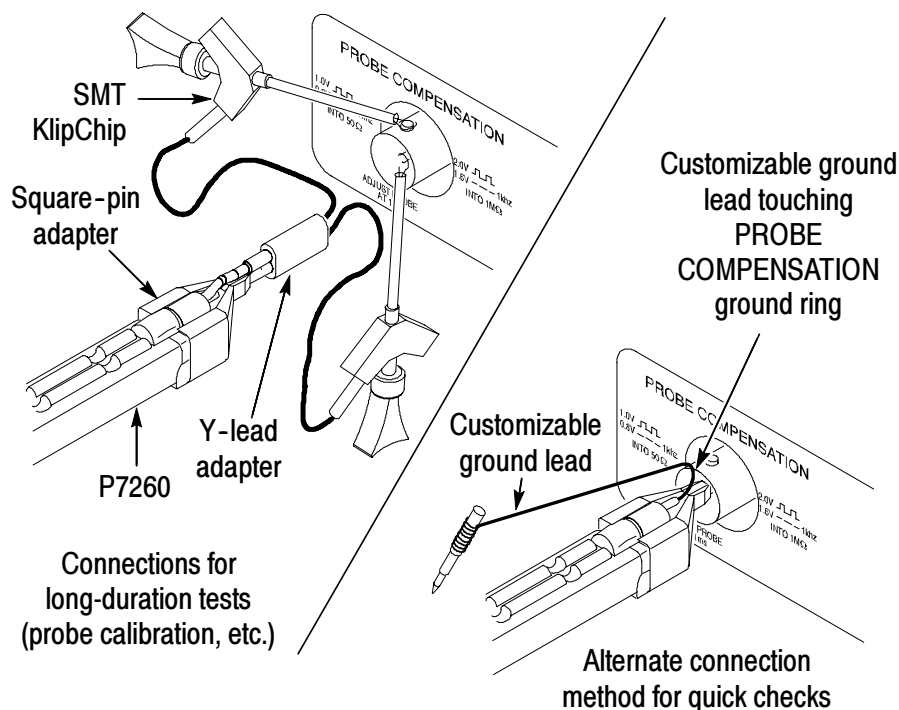

Figure 3: Probe functional check connections
3. Connect the Square-pin adapter to the probe head. Plug the SMT KlipChips into the Y-lead adapter, and then connect the Y-lead adapter to the ground and pin sockets of the square-pin adapter. Refer to Figure 3 on page 20.
square-pin adapter. Plug the SMT KlipChips into the Y-lead adapter. Refer to Figure 3 on page 20 of the *Host Instrument-to-Probe Calibration* section.